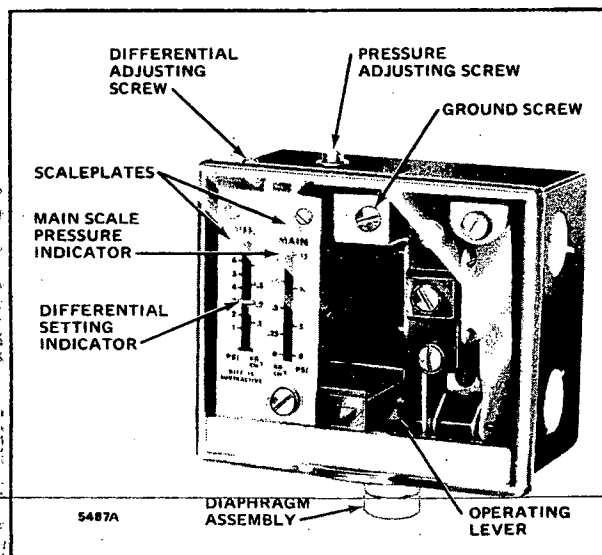

FIG. 6—INTERNAL VIEW OF PRESSURETROL CONTROLLER.
Turn the pressure adjusting screw on top of the control (Fig. 6) to adjust the set point. Turn the differential adjusting screw to the desired pressure difference between switch opening and closing.
2. Rotate the pressure adjusting screw (Fig. 6) until the pressure setting indicator on the front of the case corresponds to the boiler pressure gauge reading.